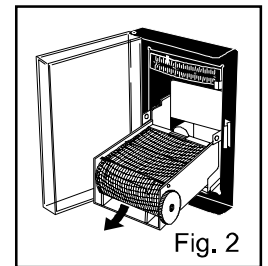

Fig. 2
3. Remove 2 screw B at the back of the foamed side table assy. (Fig. 2)
2. Pull the cartridge out of the mounted position. (Fig. 2)